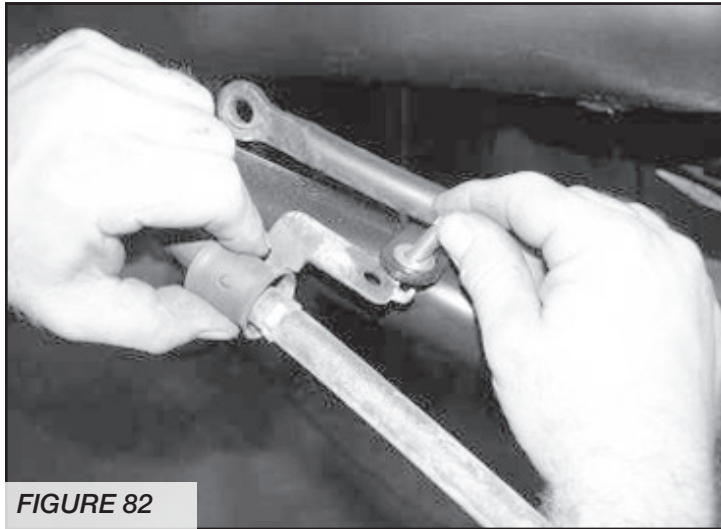

FIGURE 82
51. Attach the factory e-brake cable bracket with the supplied 5/16" x 3/4" hardware to the mounts on the new lower links. Torque to 15 lbs. **SEE FIGURE 82**